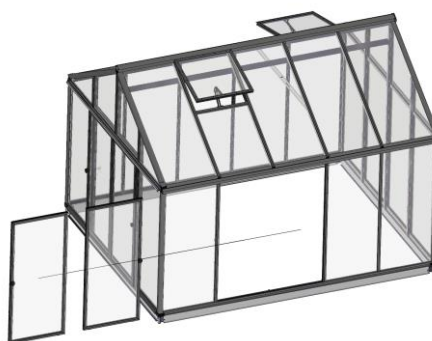

fig. 126
- the sliding doors (item SsHF/SsGF) are placed laterally on the guide rail of the floor profile (item 4.15) and pushed parallel at the top into the guide groove of the eaves profile type 5 (item 6.5). (fig. 126)